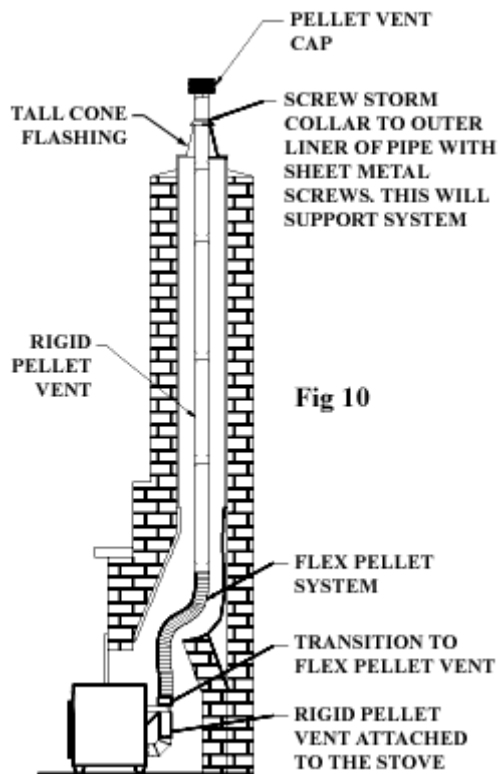

Fig 10
8. In making the connection at the appliance, configurations other than the one shown in Figure 10 may be made. It may be necessary to contact the manufacturer of the unit to determine exactly what may or may not be done to make the correct connection. Some typical arrangements are shown in Figures 11 and 12. A Pipe Adapter may be needed, depending on the exit size of the stove or insert collar.